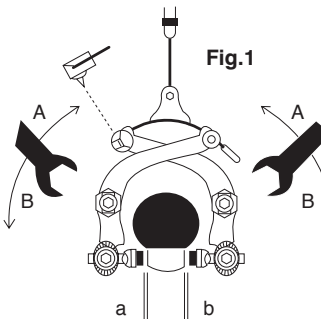

Fig.2
2. Face the shoe surface to the rim, and set it as shown in Fig 2.